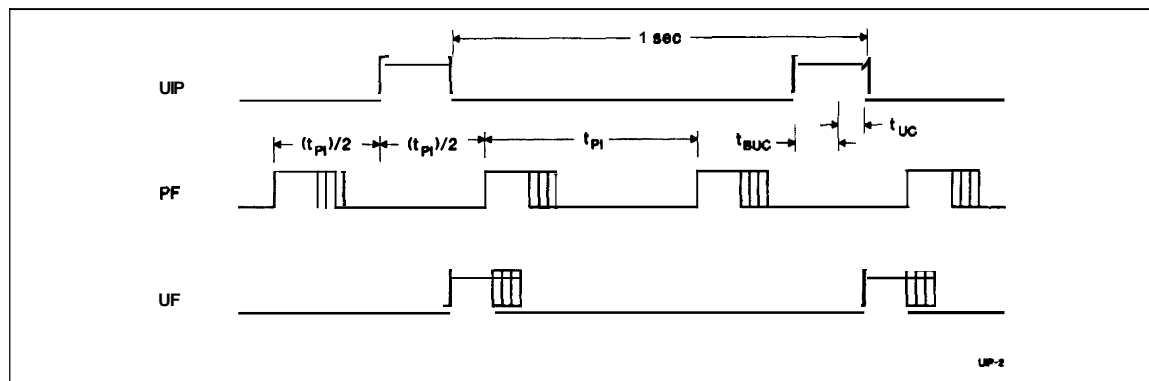

Figure 3. Update-Ended/Periodic Interrupt Relationship
- Enable the update interrupt event to generate interrupt requests at the end of the update cycle. The interrupt handler has a maximum of 999ms to access the clock bytes before the next update cycle begins (see Figure 3).
- Poll the update-in-progress bit (UIP) in register A. If UIP = 0, the polling routine has a minimum of tBUC time to access the clock bytes (see Figure 3).
- Use the periodic interrupt event to generate interrupt requests every tPI time, such that UIP = 1 always occurs between the periodic interrupts. The interrupt handler will have a minimum of tPI/2 + tBUC time to access the clock bytes (see Figure 3).